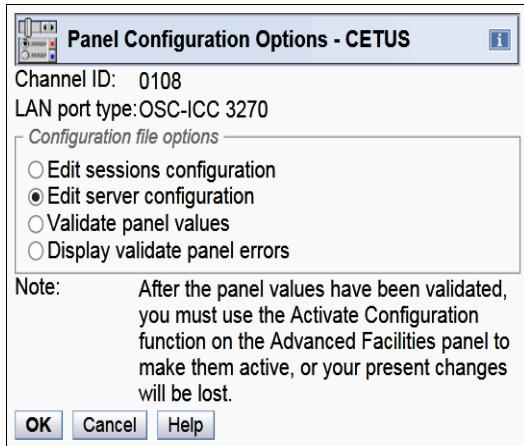

Figure 7-3 Edit Server Configuration
- The Panel Configuration Options window opens (Figure 7-3). Define session configuration and server configuration in this window, and validate those values. In this example, we define the server configuration first. Next, we define the session configuration. To edit the server configuration, select **Edit server configuration** and click **OK**.